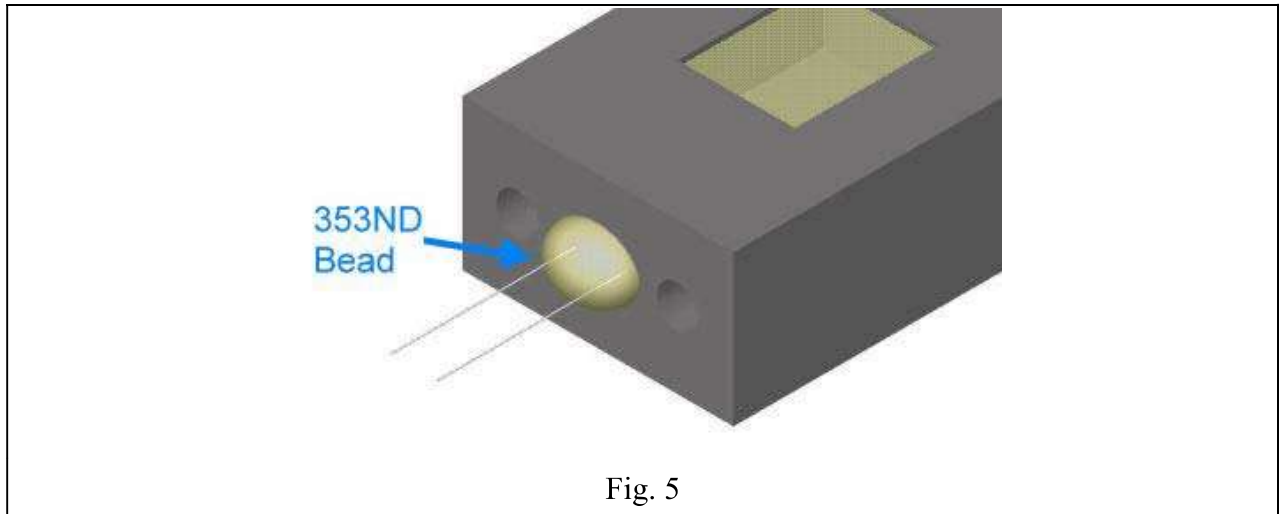

Fig. 5
Step 4 Slide the fiber gently in and out of ferrule to form the 353ND bead on the end of ferrule. Apply a drop of 353ND on the tip of ferrule to form the 353ND bead. See Fig. 5.